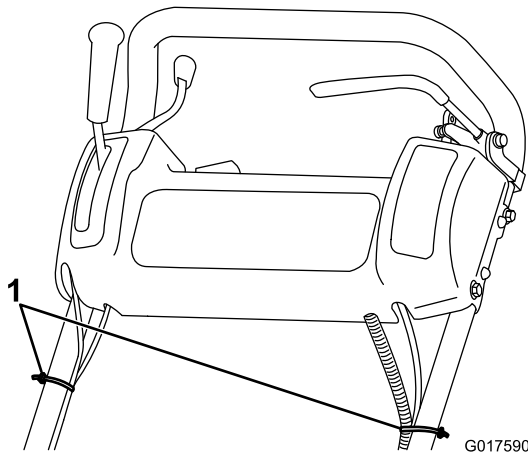

Figure 4
8. Secure the cables and wire harness to the handle with cable ties (Figure 4).